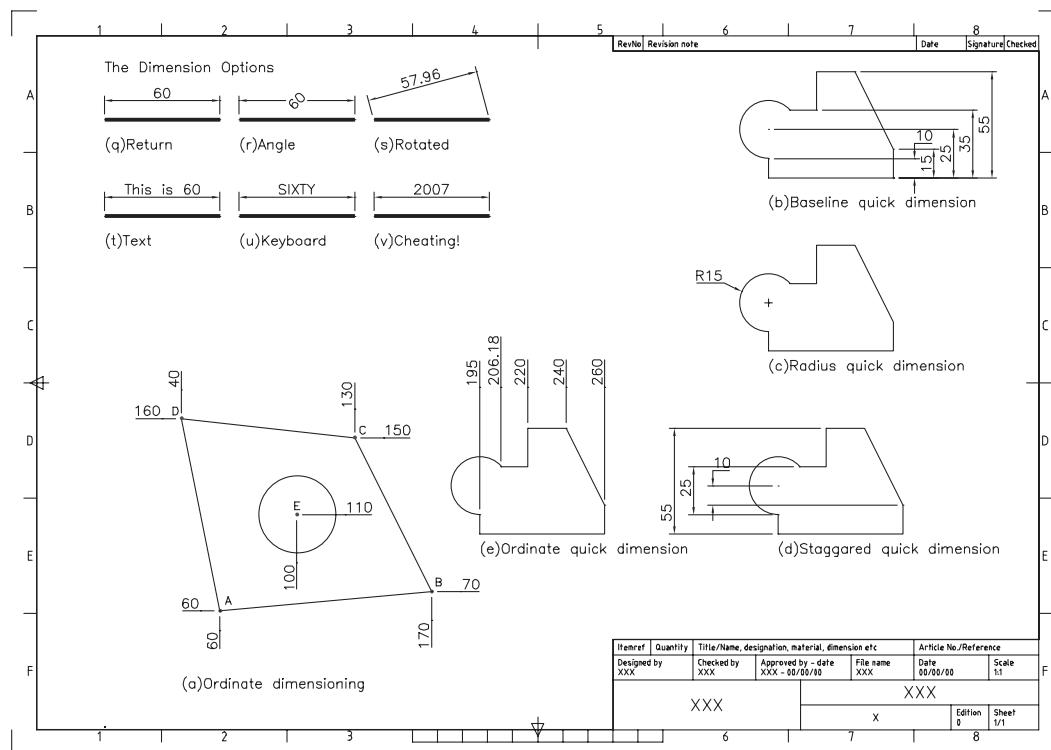

Figure 14.11 Dimensions: ordinate, quick and options.
b) Erase all objects from the screen and refer to Figure 14.11.
- 9 The final dimensioned component should be similar to Figure 14.11(a).
- 2 To demonstrate the topic, refer to Figure 14.11(b) and draw a shape consisting of lines and arcs/circles.
- 5 a) All vertical dimensions will be displayed from the horizontal baseline of the shape as Figure 14.11(b)
and all radius dimensions displayed as Figure 14.11(c) and command line returned.
- a) staggered dimensions to the component as Figure 14.11(d)
- b) ordinate dimensions as Figure 14.11(e).
- 1 Continue with the current drawing – Figure 14.11.
respond	pick above the line – Figure 14.11(q).
respond	pick a point to suit – Figure 14.11(r).
respond	pick to suit – Figure 14.11(s).